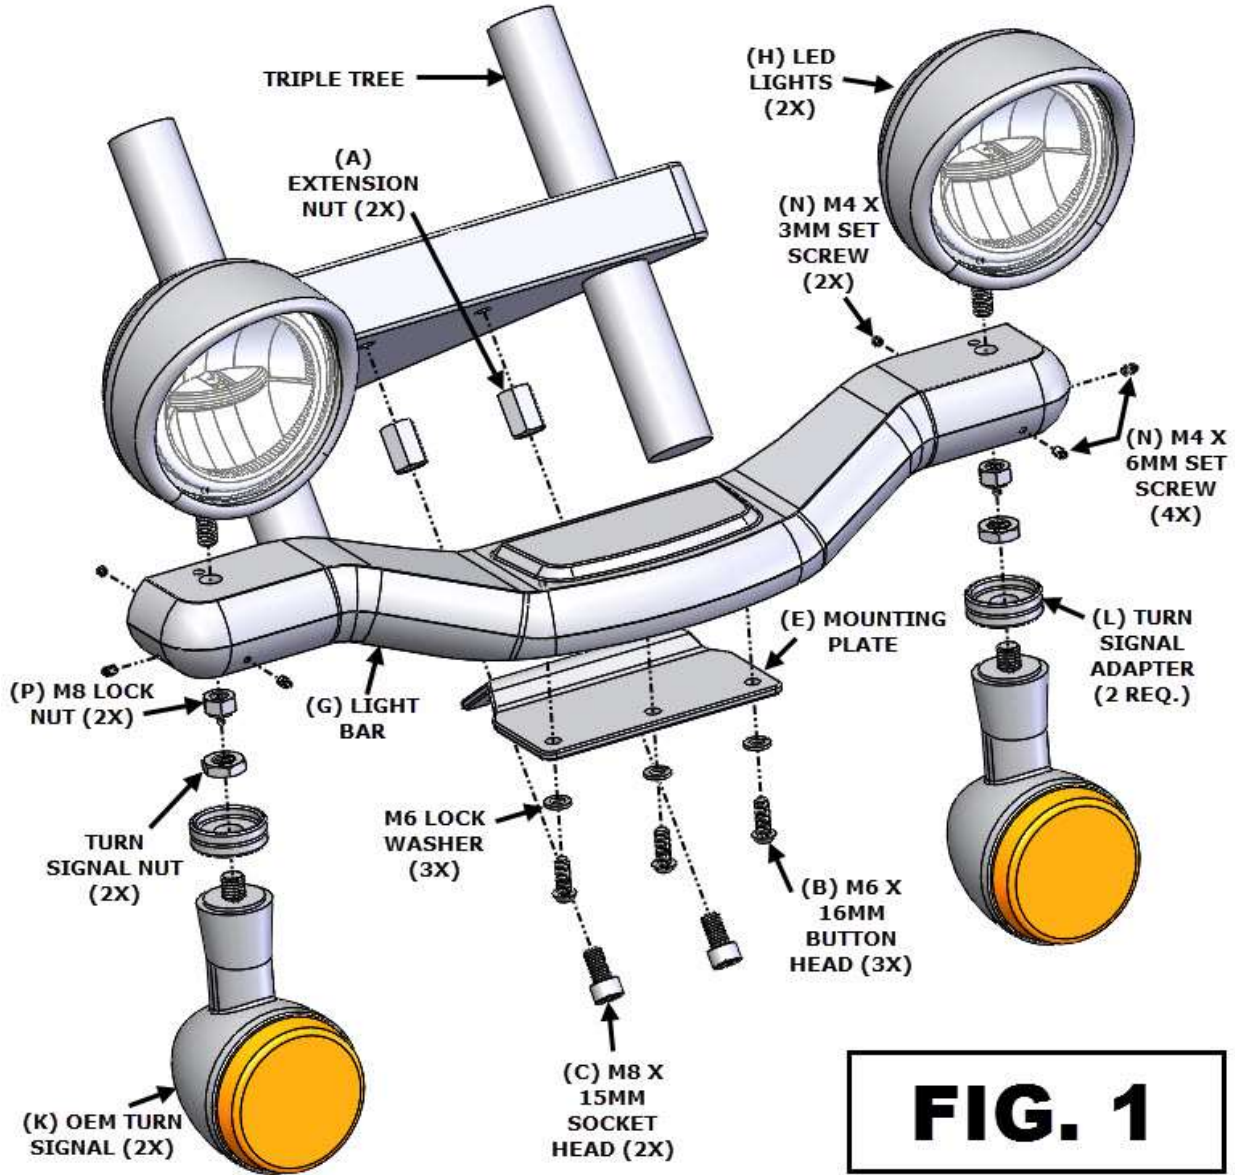

FIG. 1
8. INSTALL THE LED LIGHTS (H) ONTO THE LIGHT BAR (G) USING THE LOCK NUTS (P) PROVIDED WITH THE LIGHTS. POSITION THE LIGHTS AND TIGHTEN WITH A 13MM SOCKET. **SEE FIG. 1.**